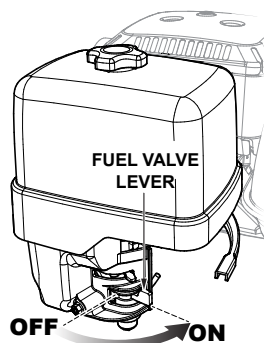

Figure 16. Fuel Shut-Off Lever (ON)
1. Place the fuel shut-off lever (Figure 16) in the **ON** position.